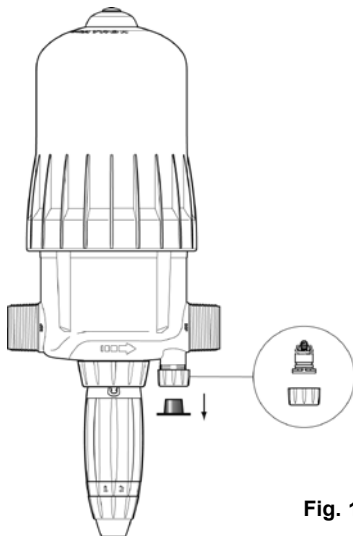

Fig. 11
- Automatically restores atmospheric pressure within the installation in case of accidental depressurisation* (**Fig. 11**). Its use complies with health and safety regulations in force in the country.